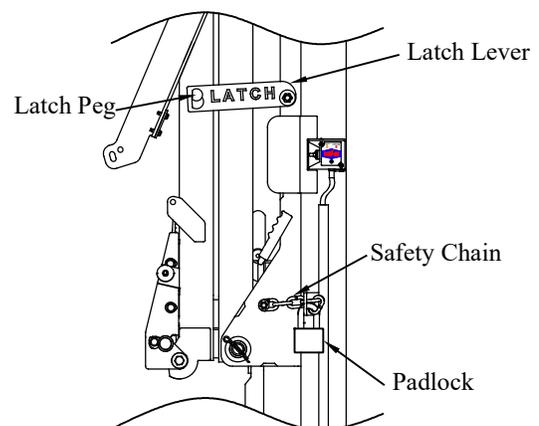

Figure 16: Platform chains removed for clarity.
35. **Latch** the latch lever over the latch peg (Figure 16).
36. **Hook** the safety chain and **Attach** the padlock (Figure 16).